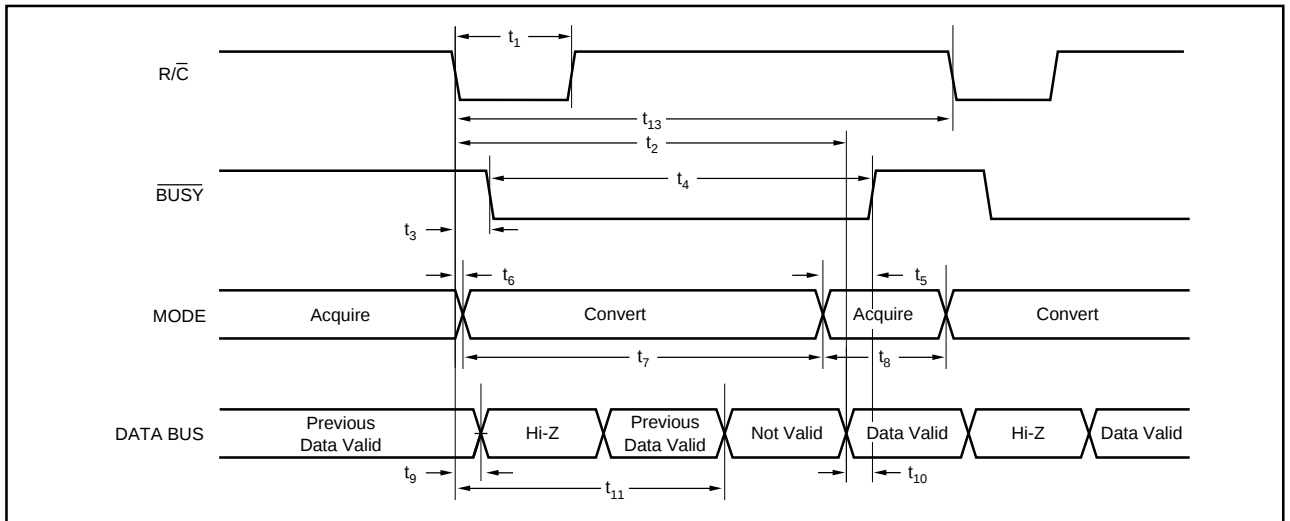

FIGURE 3. Conversion Timing with Outputs Enabled after Conversion ($\overline{CS}$ Tied LOW.)
Table II for a summary of $\overline{CS}$, $\overline{R/C}$, and $\overline{BUSY}$ states and Figures 3 through 5 for timing diagrams.
NOTE: (1) See Figures 3 and 4 for constraints on data valid from conversion "n-1".
After conversion 'n' is completed and the output registers have been updated, $\overline{BUSY}$ (pin 26) will go HIGH. Valid data from conversion 'n' will be available on D15-D0 (pin 6-13 and 15-22). $\overline{BUSY}$ going HIGH can be used to latch the data. Refer to Table IV and Figures 3 and 5 for timing specifications.
After conversion 'n' has been initiated, valid data from conversion 'n-1' can be read and will be valid up to $7\mu s$ after the start of conversion 'n'. Do not attempt to read data from $7\mu s$ after the start of conversion 'n' until $\overline{BUSY}$ (pin 26) goes HIGH; this may result in reading invalid data. Refer to Table IV and Figures 3 and 5 for timing specifications.
The number of control lines can be reduced by tying $\overline{CS}$ LOW while using $\overline{R/C}$ to initiate conversions and activate the output mode of the converter. See Figure 3.